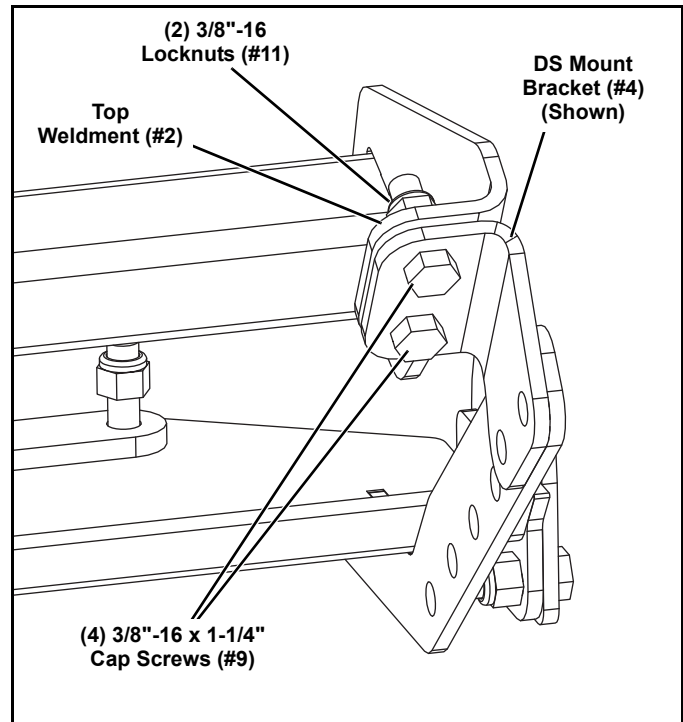

Figure 7
9. Use the drilled holes to align and assemble the Driver and Passenger Side Mount Brackets (#4 and 5) to the Top Weldment (#2). Use (4) 3/8"-16 x 1-1/4" Cap Screws (#9) and (4) 3/8"-16 Locknuts (#11). Loosen any hardware necessary to help aid in aligning parts. (See Figure 7).